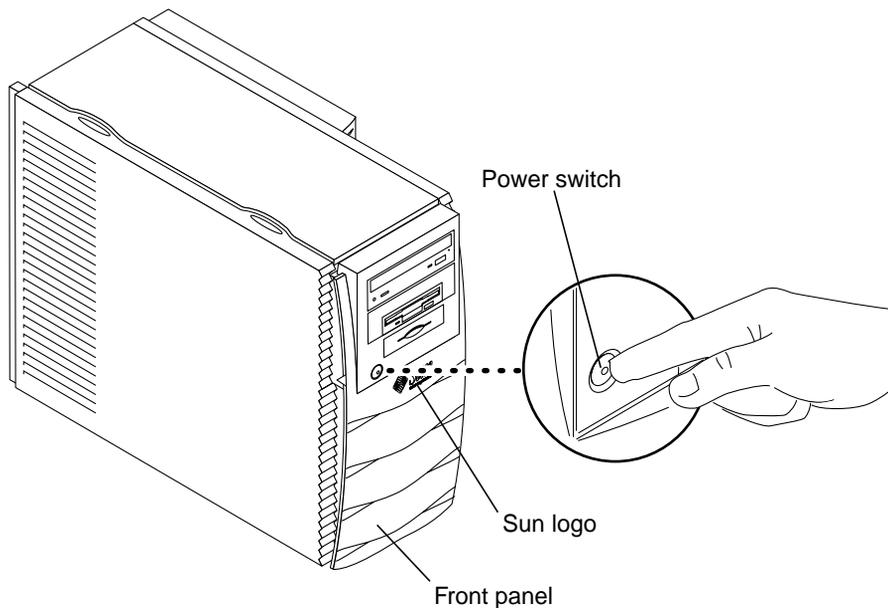

FIGURE 2 Workstation Power Switch
- i. **Press and release the front panel power switch (see FIGURE 2) to automatically shut down all programs and the operating system, and to power off the workstation.**
- i. Press the front panel power switch (see FIGURE 2) to power off the workstation.**
- c. If the system is at the `ok` prompt (OpenBoot interface), press and hold the front panel power switch for four seconds (see FIGURE 2) to power off the workstation.**